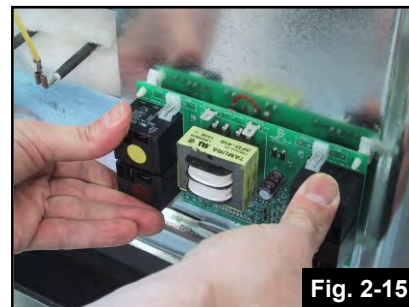

Fig. 2-15
4. To avoid any static electricity discharge to the Controller which can damage it, start by grounding yourself by touching the range. Then remove the Controller carefully from the anti-static bag. Hold the board by the relays or by its edges (Fig.2-15). Avoid touching other components on the Controller or its back. Secure the Controller to the supports as shown.(Fig.2-15) Ensure each support is fully inserted.